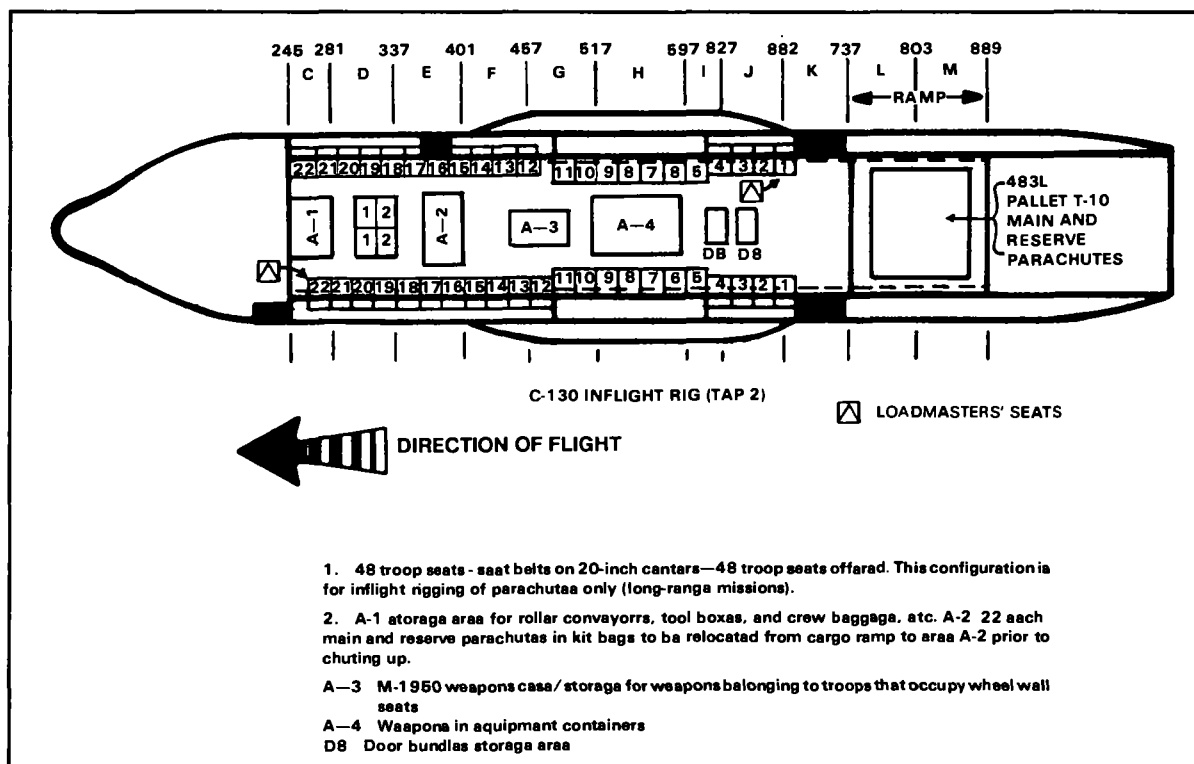

Figure 11-3. Configuration for in-flight rigging (48 seats).
c. **Aircraft Configuration.** The aircraft is TAP-2 configured to seat a total of 48 persons to include 2 load-masters, 2 nonjumping safety NCOs, and 44 parachutists (Figure 11-3).
- (1) Forty-four parachutes and reserves, in kit bags, are palletized (covered with a cargo net or tie-down devices) on the ramp.
- (2) Door bundles are placed in the center aisle just forward of the ramp.